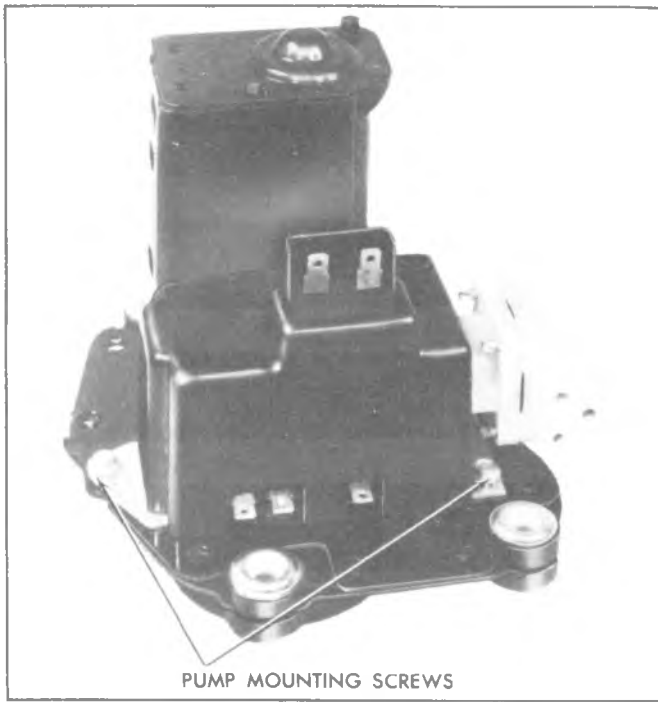
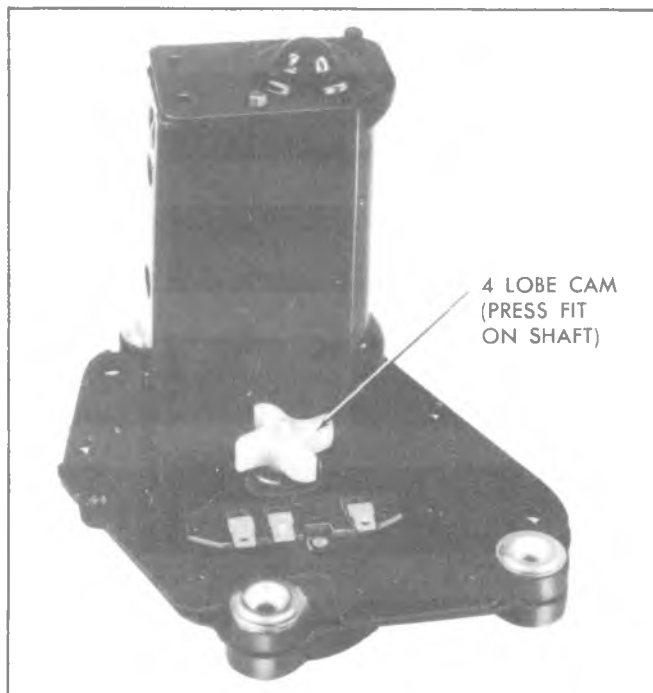
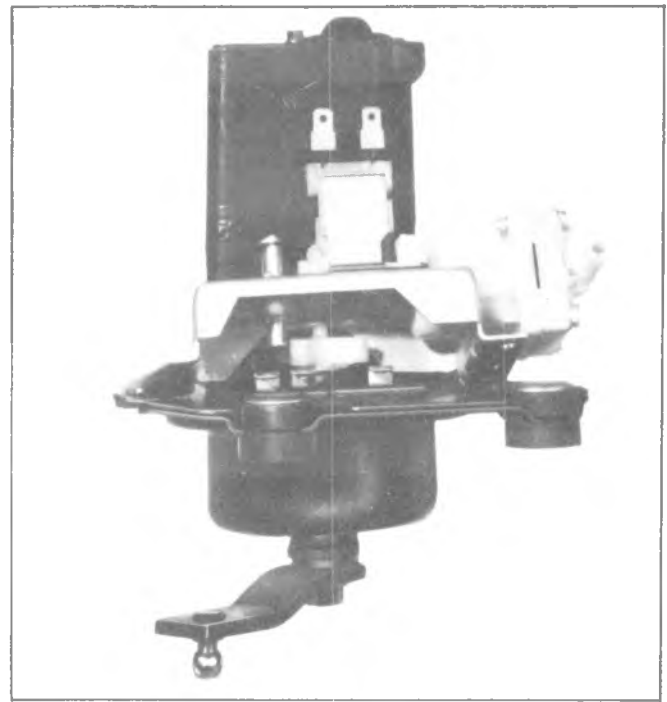

Fig. 8-46 Washer Pump Attaching Screws
Fig. 8-47 Washer Pump Drive Cam
Fig. 8-48 Washer Pump Drive Cam and Actuator
2. Remove washer pump drive cam as required (figs. 8-46 and 8-47). The cam is pressed on the shaft but can be wedged off by using two screwdrivers between cam and plate.
The positive displacement washer pump used on the two-speed non-depressed park wipers (fig. 8-46) use a pump mechanism consisting of a piston, piston spring and valve arrangement driven by a (4) lobe cam, and follower assembly (fig. 8-48). The cam is attached to one shaft of the wiper motor output gear (fig. 8-47). Programming is accomplished electrically and mechanically by a relay assembly and ratchet wheel arrangement.
CAUTION: Install washer multiplug harness connector with battery lead on terminal with no tang (fig. 8-46). Incorrect installation of